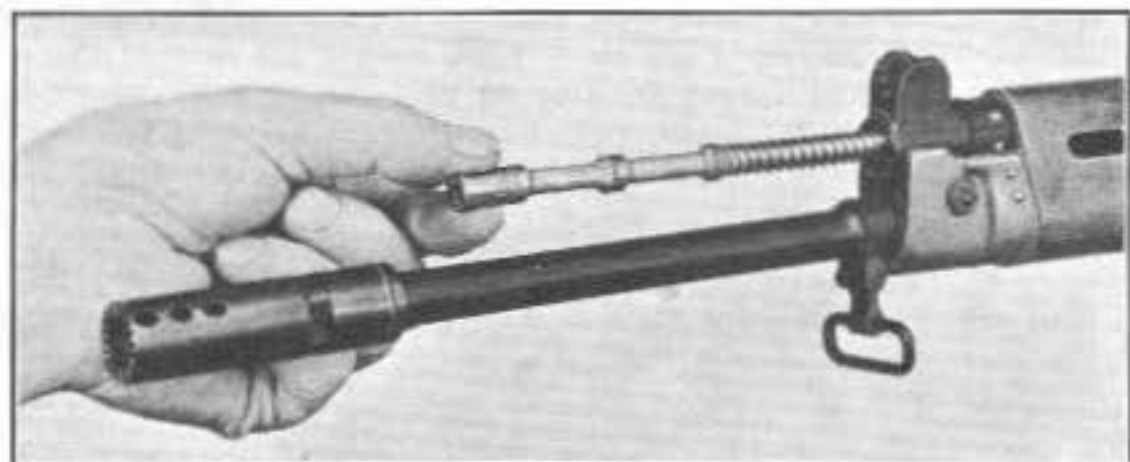

Fig. 45
f) **Remove the piston** and spring from the gas cylinder (fig. 45).